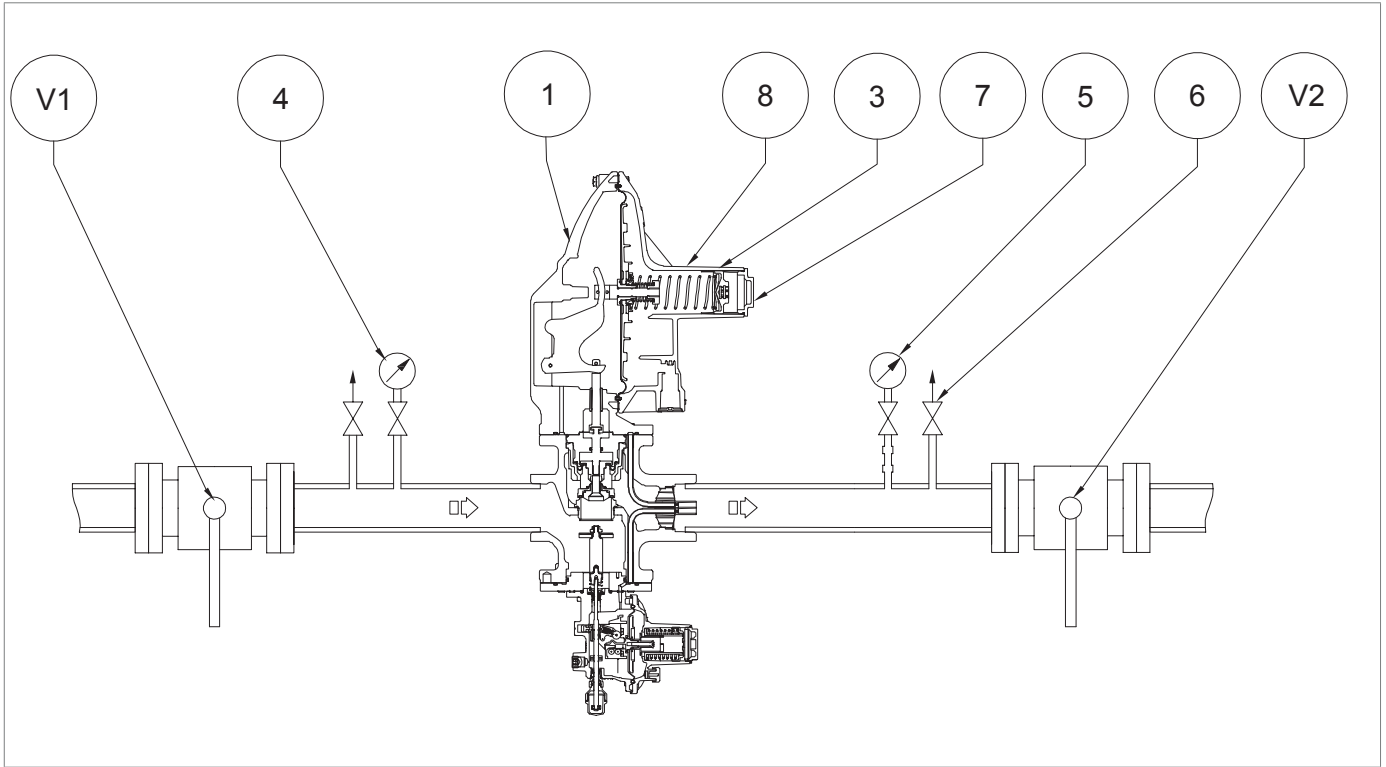

Fig. 8.24. Commissioning of the CIRVAL regulator with LA slam-shut valve
3	<p>If the required minimum pressure value is not reached, remove the adjustment ring nut (fig. 8.20, ref. 3) and remove the adjustment spring (fig. 8.24, ref. 8).</p> <div style="border: 1px solid black; padding: 5px;"> <p>! NOTICE!</p> <p>Check the tripping pressure value of the slam-shut valve indicated on the downstream pressure gauge (fig. 8.20, ref. 5).</p> </div>
5	<p>After having checked that the slam-shut valve trips at the preset value, proceed as follows:</p> <ol style="list-style-type: none"> Close the air vent valve (fig. 8.20, ref. 6) Position the adjustment spring (fig. 8.24, ref. 8), the end cap (fig. 8.24, ref. 7), adjustment screw (fig. 8.20, ref. 3) Slowly open the upstream shut-off valve (V1) until the downstream pressure value (Pd) reaches the calibration value of the regulator, referring to the downstream pressure gauge (fig. 8.20, ref. 5) Close the upstream shut-off valve (V1) Slowly and partially open the air vent valve (fig. 8.20, ref. 6) to decrease the downstream pressure by referring to the downstream pressure gauge (fig. 8.20, ref. 5) until the minimum pressure trip value is reached Check the minimum pressure spring for proper calibration by repeating steps 3-4-5 at least three times Calibrate the main regulator referring to par. 8.5